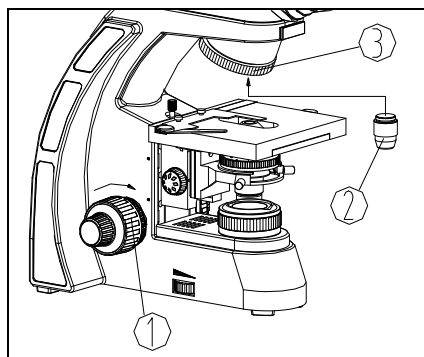

Fig. 5
1. Rotate the coarse focusing knob ① to lower the stage to a suitable position (see Fig. 5).
2. Install the objectives ② into the objective nosepiece ③ from the lowest magnification to the highest in a clockwise direction from the rear.